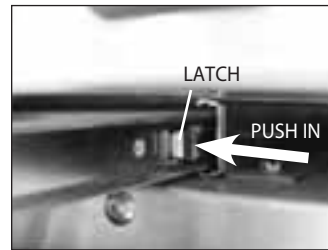

Fig. 20
- Push in latches on the sides of the slides while pulling out the drip tray (Fig. 20).